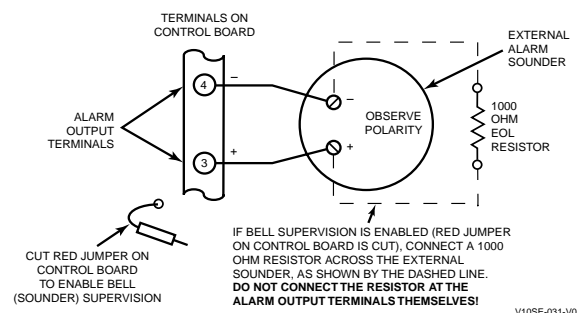

Figure 13. Bell Supervision Wiring
1. Cut the red Bell Supervision Jumper located above terminals 2 and 3 on the control board. See *Figure 13* below.